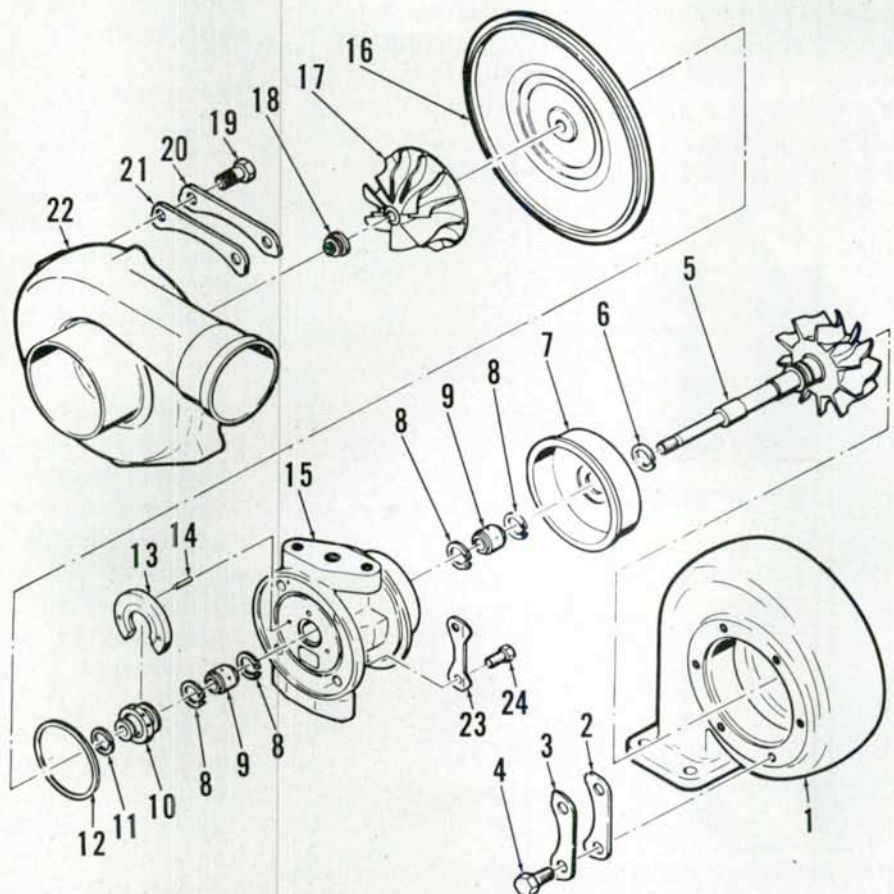

Fig. 130—Exploded view of AiResearch turbocharger used on TW-15, TW-25 and TW-35 models.
87. OVERHAUL. Prior to disassembling turbocharger, clean the exterior and mark compressor housing (22—Fig. 130), center housing (15) and turbine housing (1) to ensure correct alignment when reassembling.
If turbocharger is damaged due to lack of lubrication which results in bearing seizure or if impellers are damaged due to contact with foreign objects or housing walls, renewal of center housing and rotating parts will probably be required. Always renew rubber seal ring (12—Fig. 130), metal seal rings (6 and 11), bearings (9), retaining rings (8) if removed, lockplates (2, 20 and 23) and cap screws (4, 19 and 24).